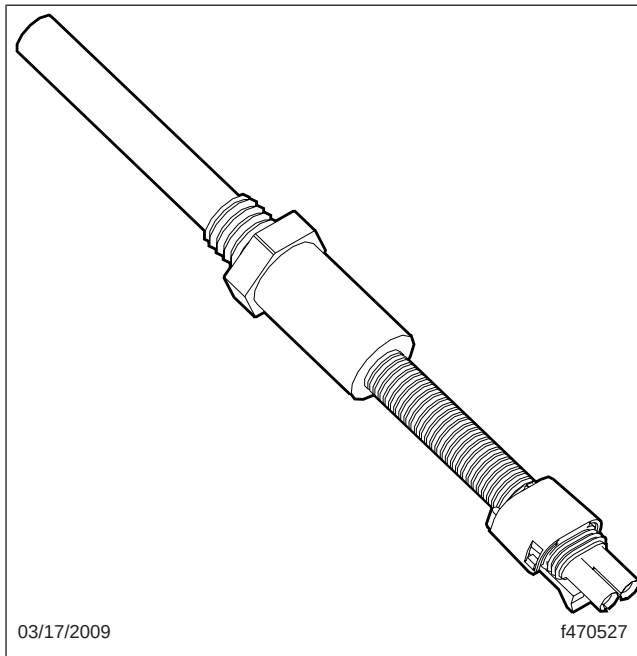

Fig. 3, Combination Pre-Heater Thermostatic Switch
4. Disconnect the pre-heater/thermoswitch unit from the wiring harness, see Fig. 3.